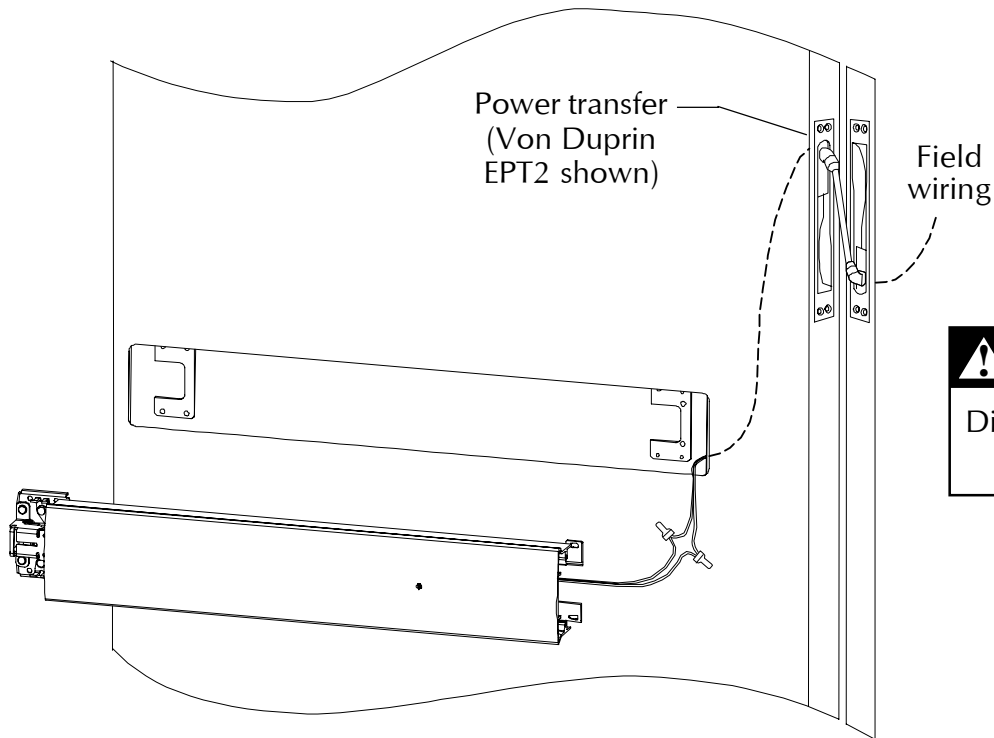

Figure 4-1
- 4.1. Connect field wiring to frame side of power transfer (Figure 4-1).